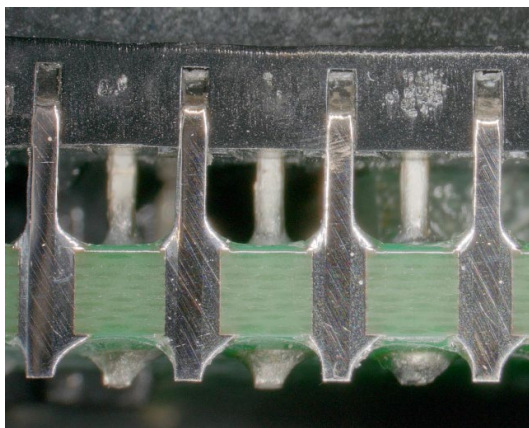

Figure 13: Soldering result (cross section).
- a minimum of 75% solder coverage on both sides of the leads, see Figure 13.